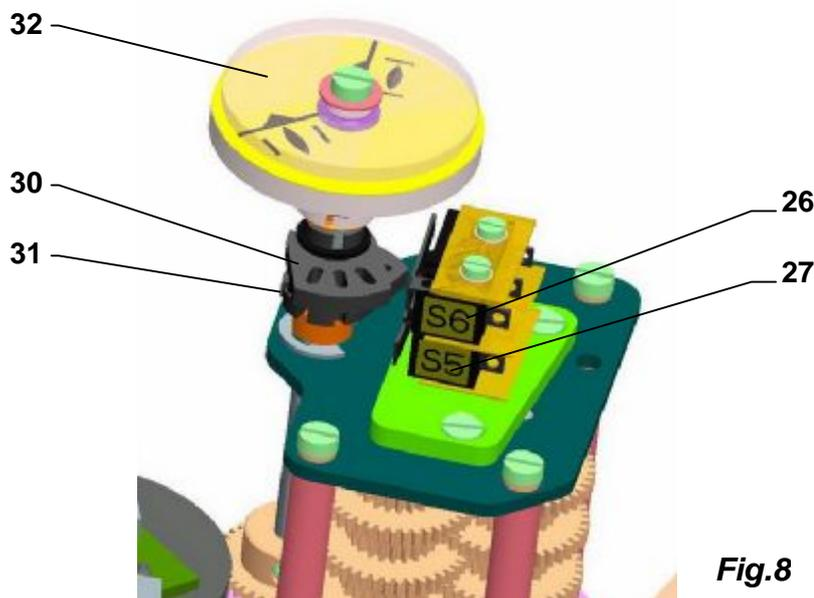

Fig.8
4.2 Signaling switches adjustment (S5,S6) (Fig. 8)
4.3 Position indicator adjustment (Fig.8)